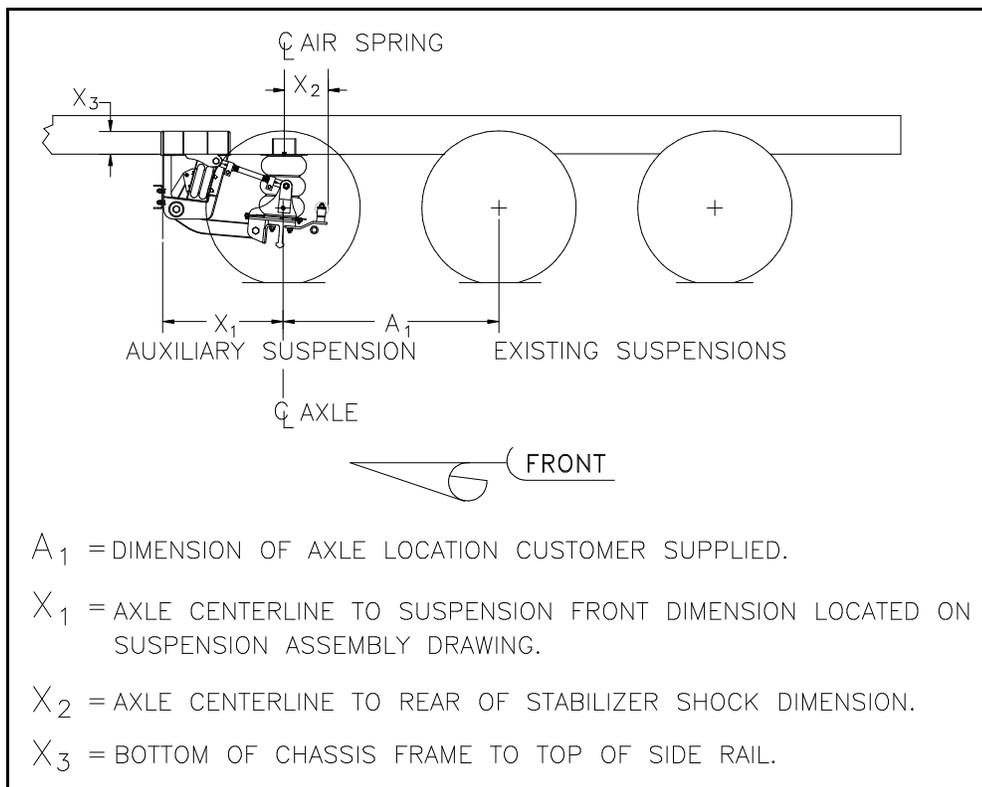

Figure 4-1
1. Determine the location of the auxiliary axle, mark the location of the center line of the axle on the outside of the vehicle frame rail. Refer to the suspension assembly drawing and mark the boundary areas of the auxiliary suspension mounting surfaces on the previously marked surfaces (See Figure 4-1). Again check for suspension clearance problems to truck components.